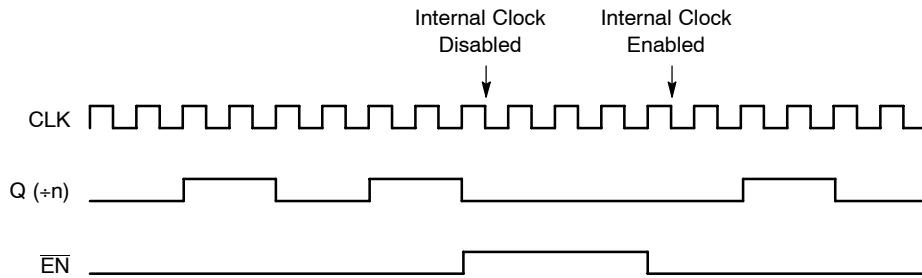

**Figure 6. Timing Diagram**
**Differential Input Driven Single-Ended** (see Figures 6 & 8)